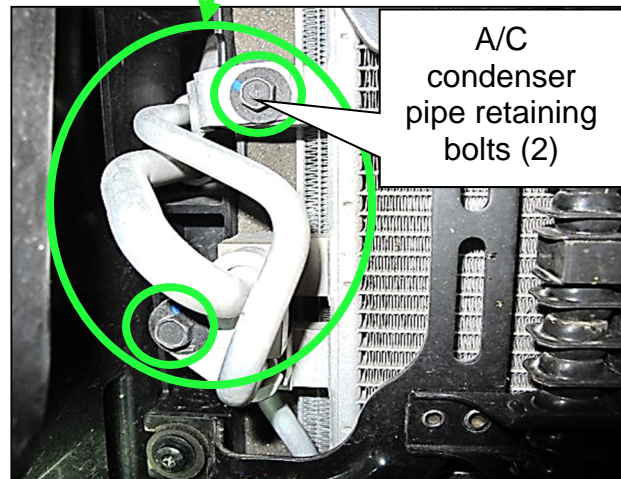

Figure 15
13. Remove the two (2) 10 mm A/C condenser pipe retaining bolts at the A/C condenser, where shown in Figure 15.